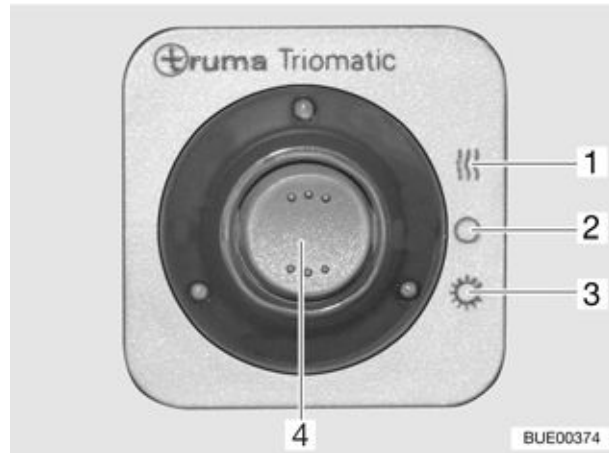

Fig. 106 Remote display
The remote display (Fig. 106) signals the vehicle interior which gas bottle is being used.
Set the operating mode with the rocker switch (Fig. 106,4).
- Winter operation "On and Heating" (Fig. 106,1)
- Off (Fig. 106,2)
- Summer operation "On" (Fig. 106,3)